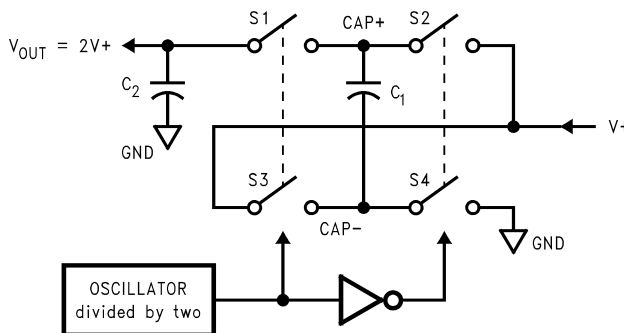

Figure 9-2. Voltage Doubling Principle
The LM2767 contains four large CMOS switches which are switched in a sequence to double the input supply voltage. Energy transfer and storage are provided by external capacitors. Figure 9-2 illustrates the voltage conversion scheme. When  $S_2$  and  $S_4$  are closed,  $C_1$  charges to the supply voltage  $V+$ . During this time interval, switches  $S_1$  and  $S_3$  are open. In the next time interval,  $S_2$  and  $S_4$  are open; at the same time,  $S_1$  and  $S_3$  are closed, the sum of the input voltage  $V+$  and the voltage across  $C_1$  gives the  $2V+$  output voltage when there is no load. The output voltage drop when a load is added is determined by the parasitic resistance ( $R_{ds(on)}$  of the MOSFET switches and the ESR of the capacitors) and the charge transfer loss between capacitors. Details are discussed in Section 9.
- $R_{SW}$  is the sum of the ON resistance of the internal MOSFET switches shown in Figure 9-2.